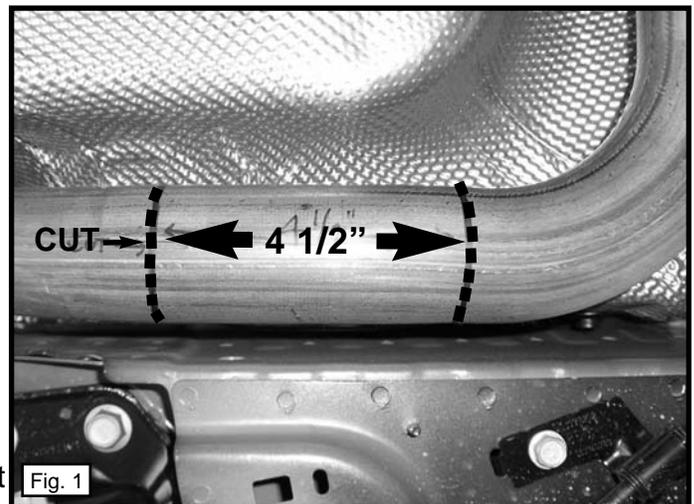

Fig. 1
- 3) Mark the stock exhaust system as shown. (Fig. 1) You will need to measure 4-1/2" from the point where the bend becomes straight.